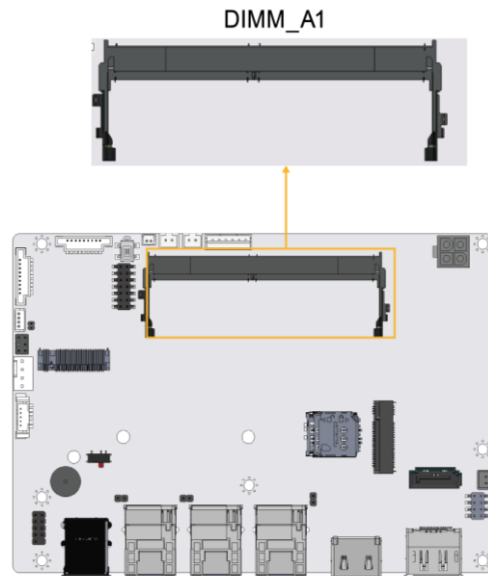

Figure 4-13: DDR4 SO-DIMM Socket Location
- CN Location:** See **Figure 4-13**